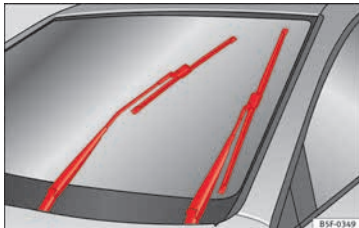

Fig. 72 Wipers in service position
- Turn the ignition on and off and then (with approximately 9 seconds) push the windscreen wiper lever down (short wipe). The windscreen wipers will move to the service position » Fig. 72.